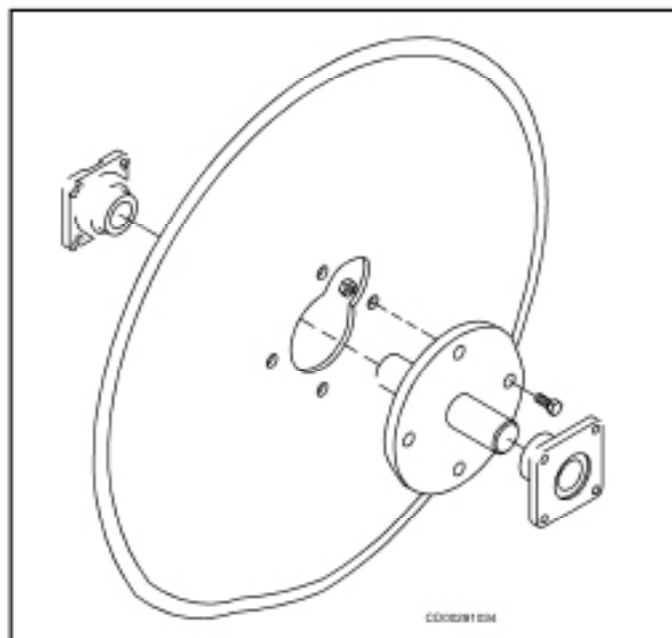

Figure 26 Mounting Coulter Disc
1. Fasten hub assembly to disc, using $3/8 \times 1-1/4$ " hex bolts, lock washers, and hex nuts as shown in Figure 26.